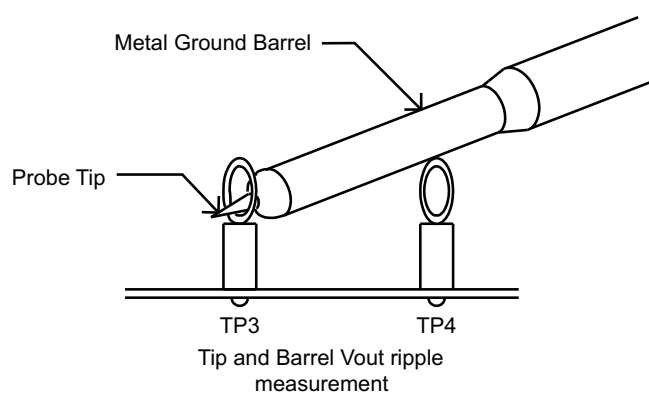

Figure 3. Output Ripple Measurement – Tip and Barrel using TP3 and TP4
2. Connect oscilloscope probe with exposed metal barrel to TP3 and TP4 per Figure 3